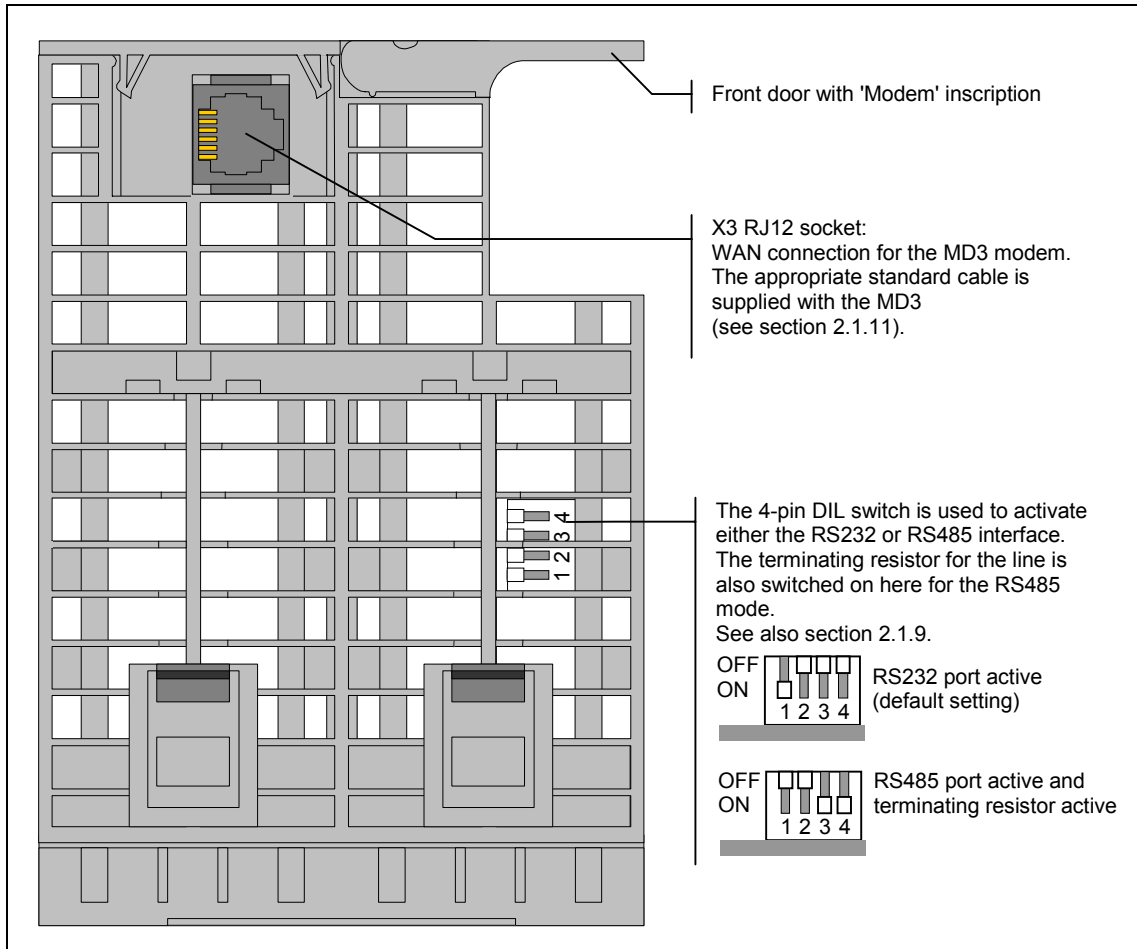

Fig. 2-8 View of the MD3 modem from below
Another 4-pin DIL switch can be accessed from the bottom of the modem housing (see Fig. 2-8). The DIL switch is used to activate either the RS232 or RS485 interface. The terminating resistor for the line is also switched on here for the RS485 mode. The following illustration shows a summary of the settings possible, Fig. 2-8 lists the default settings.
- 3) The RS485 interface must also be activated with the 4-pin DIL switch accessible from below (see Fig. 2-8).